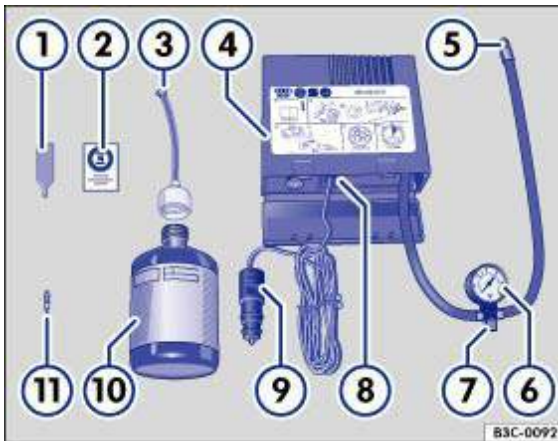

Fig. 202 The breakdown set
The breakdown set is located underneath the floor covering in the luggage compartment. It includes the following components → Fig. 202:
- Use the valve core extractor → Fig. 202 ① to screw the valve core out of the tyre valve. Place the core on a clean surface.
- Shake the tyre filler bottle → Fig. 202 ② vigorously up and down several times.
- Screw the filler hose → Fig. 202 ③ tightly onto the tyre filler bottle in a clockwise direction. The plastic foil on the plug is pierced automatically.
- Remove the plug from the filler hose → Fig. 202 ③ and place the open end fully on the tyre valve.
- Use the valve core extractor → Fig. 202 ① to screw the valve core back onto the tyre valve.
- Screw the tyre filler hose → Fig. 202 ④ of the air compressor tightly onto the tyre valve.
- Check that the bleed screw → Fig. 202 ⑦ is closed.
- Insert the plug → Fig. 202 ⑤ into the 12-volt socket in the vehicle → Socket .
- Use the on/off switch → Fig. 202 ⑥ to switch on the air compressor.
Reconnect the tyre filler hose → Fig. 202  and check the tyre pressure on the Tyre Pressure Loss Indicator .